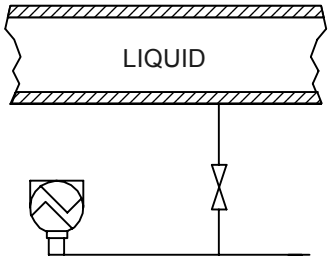
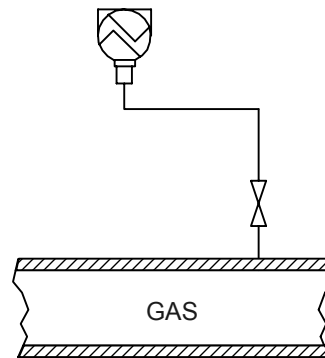

Figure 11 Pressure measurement for liquid
Figure 12 Pressure measurement for gas
- ✓ The housing position does not affect the instrument operation. Figure 11 and Figure 12 show the simplest mounting, direct on piping.